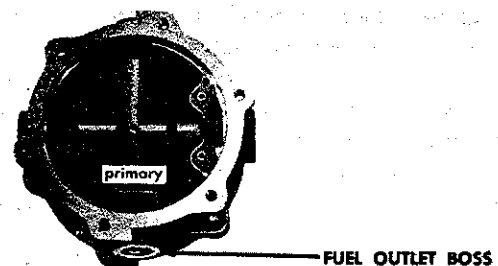

FIGURE 21
12. Turn regulator over and position it on bench so that the word "primary" is up and fuel outlet boss is toward operator. Figure 21.